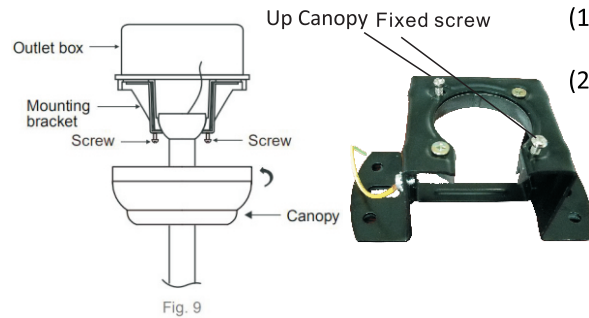

Fig. 9
(2) Rotate the motor assembly until the "Check Tab" on the mounting bracket has dropped into the "Registration Slot" on the hanging ball and seat firmly (Fig.7 Fig.8 Fig.9)
(Fig.9)